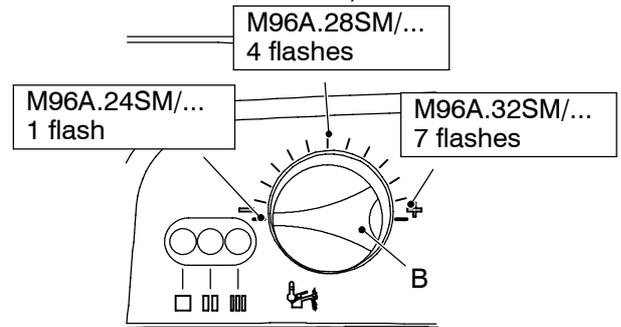

Fig. 9
At this step it is possible to visualize the current setting by keeping the reset button D pressed for more than 5 seconds. The lamps F will flash a number of times corresponding to the setting Fig. 9 (once for M96A.24SM/... , four times for M96A.28SM/... and seven times for M96A.32SM/...).
- 9 To change the setting turn the knob B on a position corresponding to the boiler models (Fig. 9). By turning the knob B, the lock-out signal lamp E blinks quickly (2 per seconds) indicating that the setting has changed and must be memorised.